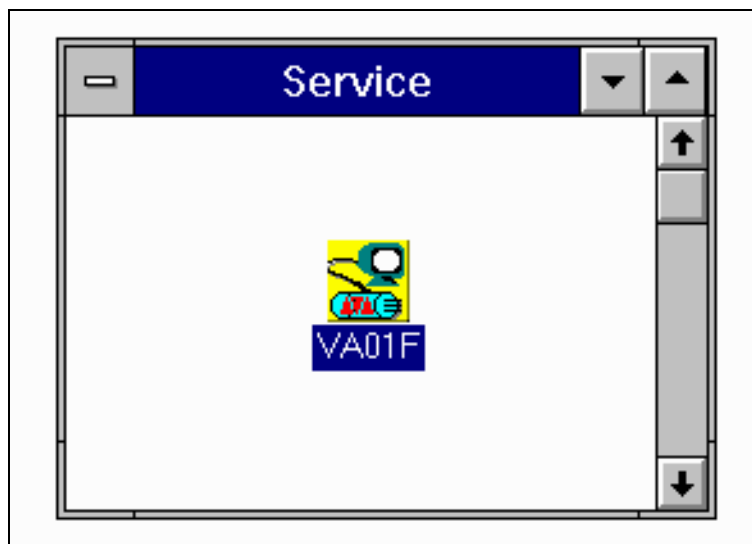

Fig. 1
- Start the service program by double clicking the icon (Fig.1).